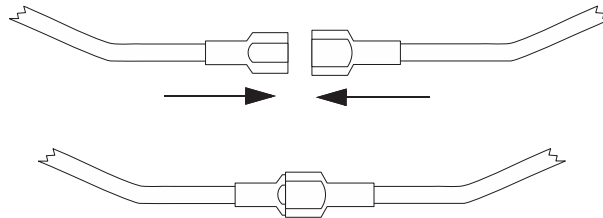

Figure 4.10 Splicing Control Panel Battery Cable to RBB/AB-55 Battery Cable Extenders
2. Connect the main control panel battery cables to the battery cable extenders as shown in Figure 4.10.